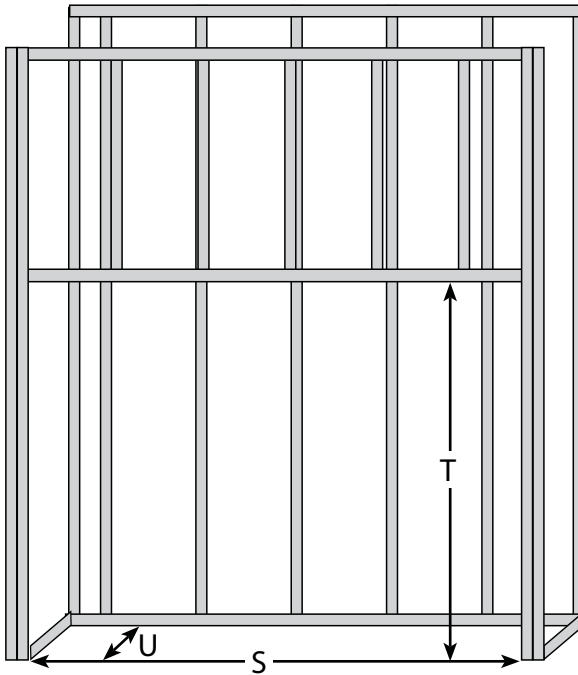

Figure 7 - Rough Opening
Table 3, below, lists the minimum dimensions of the rough opening (shown in Figure 7) into which the Halcyon Gas Fireplace is set. It also lists the minimum height of an enclosure (W) and the minimum distance between a room ceiling and the bottom of the Halcyon (V).